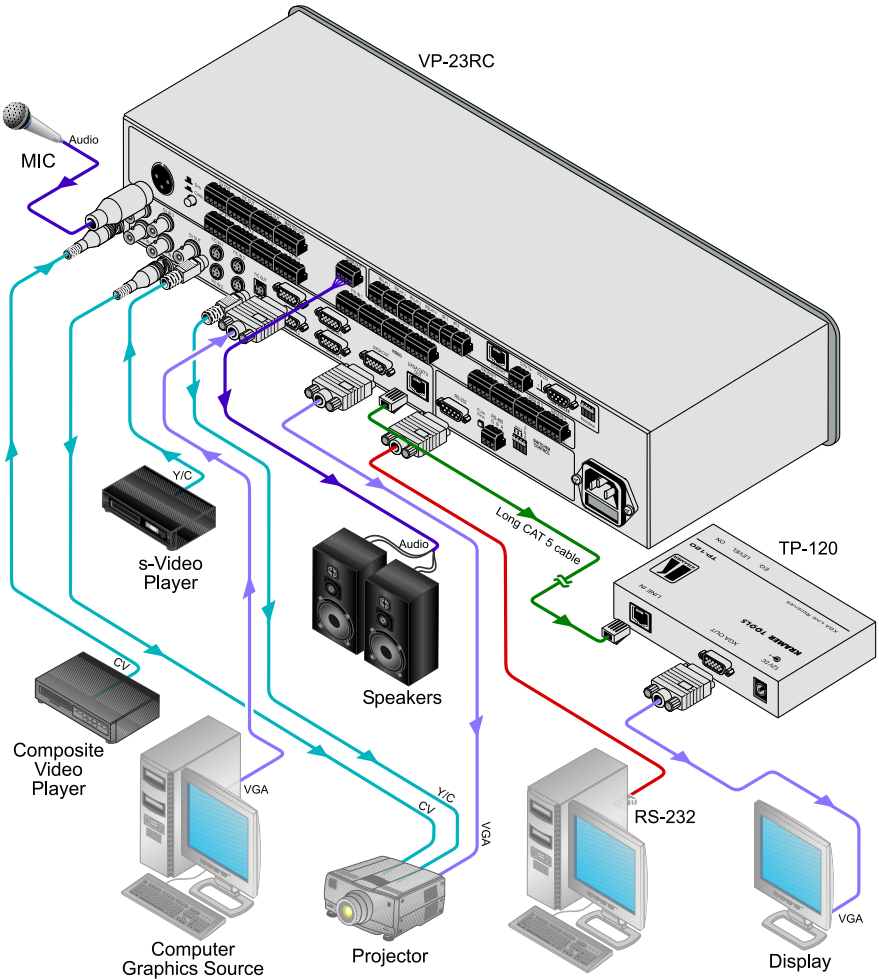

Figure 5: Connecting the VP-23RC Presentation Switcher Section
To connect¹ the **VP-23RC** Presentation Switcher section, as illustrated in the example in Figure 5, do the following²:
3. Connect the appropriate balanced⁵ audio sources and acceptors (not shown in Figure 5).
4. If required, connect the MASTER OUT terminal block connector (not shown in Figure 5; see section 9.4.2).